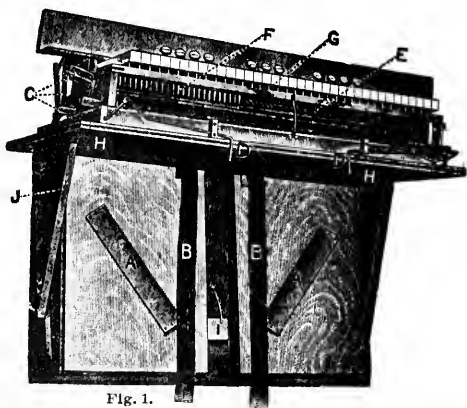

Fig. 1.
Please refer to Figure 1, in which the guide pin is shown by the letter "G." This pin goes into the lower part of the key, preventing it from moving sideways. If you will
The material in your organ is only obeying natural laws. The wood in the bellows has been exposed to undue moisture and has consequently swelled. When it swells it naturally must stretch the valve cloth, causing the valves to be tighter than the manufacturer had them when the organ left the factory. If you pump the bellows the rushing air passes these valves and if very tight will cause them to vibrate to such an extent as to give out a sound. The bellows in organs, as ordinarily placed in houses, are next to the floor, which frequently is damp and continues damp; at any rate it is seldom that the atmospheric conditions get so dry as to again thoroughly evaporate all the moisture that they have absorbed unless the room is kept well heated. If you will refer to Figure 1, page 5, and to the valves which are on the feeders, which are indicated by the letters "AA," this will aid you in overcoming the trouble. Remove the front panel of your organ, immediately over the pedals, and you will have easy access to these valves. You can pump the organ by hand; if the valves are too tight they will make a "wolfing" sound when you work the pedals (here also be sure that the little valve between the two feeders opens when you have pumped the organ hard so as to entirely exhaust the reservoir). If they do, place your finger under them and stretch them slightly. If these outside valves are not too tight, then the trouble is in the inner valve. You can see the inner valve if you lift up one of the outside valves indicated by the letter "A" in Figure 1, page 5, aforesaid. Reach in with your finger and slightly stretch the inner valve, and the trouble will be entirely and immediately overcome.
In case there is no hole in the bellows, examine the sounding board to see if there is a leak in it. Examine the escape valve on the front of the bellows, immediately between the two feeders, as indicated by the letter "I" in Figure 1, page 5. It may be that it does not close properly, and that the spring which should hold it in place is twisted. Examine this point closely. Perhaps this is the trouble. Also examine the Vox Humana mechanism by removing the back of the organ. See that the sheepskin valve is closed tight over the opening in the fan wheel when the Vox Humana stop is pushed in, and that when this stop is drawn, the lever so uncovers the opening to the fan wheel as to allow the air to rush in freely, causing only an even sound, such as an ordinary influx of air. Sometimes the pin that holds the loose end of this leather valve has been bent so that it does not cover and uncover the hole in the fan wheel properly. When closed it should lie down tight and when open the pin should pass quite up to the inner edge of the hole in the fan wheel, turning the leather valve up in a loop. Let someone pump the organ while you are at the back of it, and see if you hear any noise at this point. The only place that air can rush out of the organ so as to be perceptible is around the feeder valves when the organ is pumped. While the organ
Very rarely a little moisture will settle in the block through which the swell rod (D) runs (Fig. 1, page 5.) If, when the swell rod is pushed to the right, this wire sticks, then moisture has settled in the guide block, swelling it and binding on the wire. It you will remove the key slip you will have access to this block, and with the use of an ordinary kitchen knife you can reach down and loosen the screws that hold it, thus giving the rod more room, and this will overcome any complaint of the sticking of the swell rod.
First take off the top of the organ, if it has a top. Then take off the flat board on top of the base by removing the screws that hold it. Then take out the fall board and you will be right down to the action. Now remove the back of the organ and take off the key slip in front. At the back of the organ you will find some screws which go down through the sounding board into the foundation board which is indicated by the letters "HH" in the illustration (Fig. 1 on page 5). Remove all the screws going down through the sounding board, working from the back of the organ. Then go around to the front and you will find some screws which go up through the foundation board into the sounding board from beneath the keyboard. Take these out and the action is ready to be removed. Now refer again to Figure 1, page 5, and you will note the two knee swell wires indicated by the letters "DD." If you will take hold of the front of the action and lift it up so that these knee swell wires are raised above the foundation board, you can then slide the action right out and can then tip it up and look at the valves. This requires no mechanical knowledge. All that is necessary is that you know how to take out the screws. In putting the action back again you cannot make a mistake because it must be set properly before the screws will find the old screw holes, so you see there will be no risk on your part. In putting it back, be sure that the packing is placed between the sounding board rim and the foundation board, and that the screws are driven in as tight as they will go.